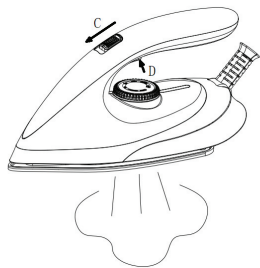

Fig.5
4. Wait until the heating indicator light (F) goes out; it indicates the soleplate temperature has reached the selected temperature.
6. According to your requirement, you can select the desired steam output for each garment. Make sure that there is enough water in the tank. When pressing steam button (D) for the first time, a little water may drip from the soleplate due to initial thermal instability.
7. To obtain a constant jet of steam, press the steam button (D) or lock steam control (C) (Fig. 5).